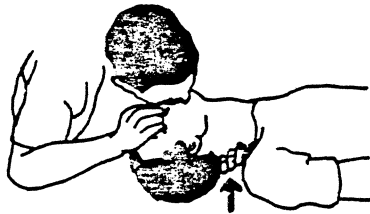

Figure 3.
- b. Open your mouth wide and take a deep breath. Make a tight seal with your mouth around the victim's mouth as shown in Figure 3 and blow into the victim's mouth.